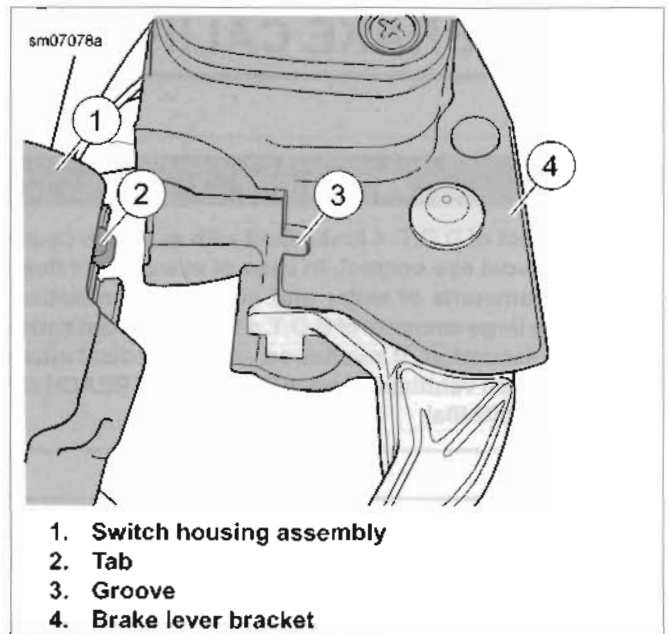

Figure 2-44. Attach Master Cylinder to Right Handlebar Switches
7. Install **new** retaining ring (9).
8. See Figure 2-44. Position the brake lever/master cylinder assembly inboard of the switch housing assembly, engaging the tab (2) on the lower switch housing (1) in the groove (3) at the top of the brake lever bracket (4).